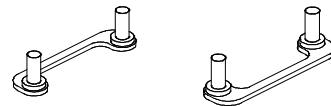

Figure 2-5
- ❑ URM Attach Mount (URMAM) - Bolt/Bridge assemblies inserted up through the bottom of the mainboard. Then secures the URM to URMAM (two URMAM required per URM). (Refer to Figure 2-5)